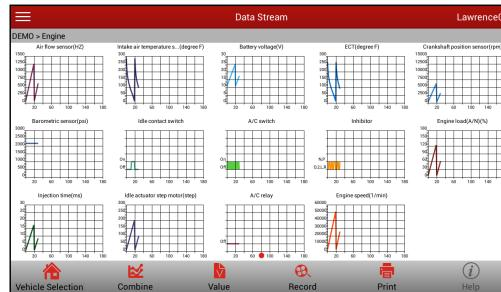

Fig. 5-22
**Graph:** After selecting, tap it to view the waveform. Refer to Fig. 5-22.